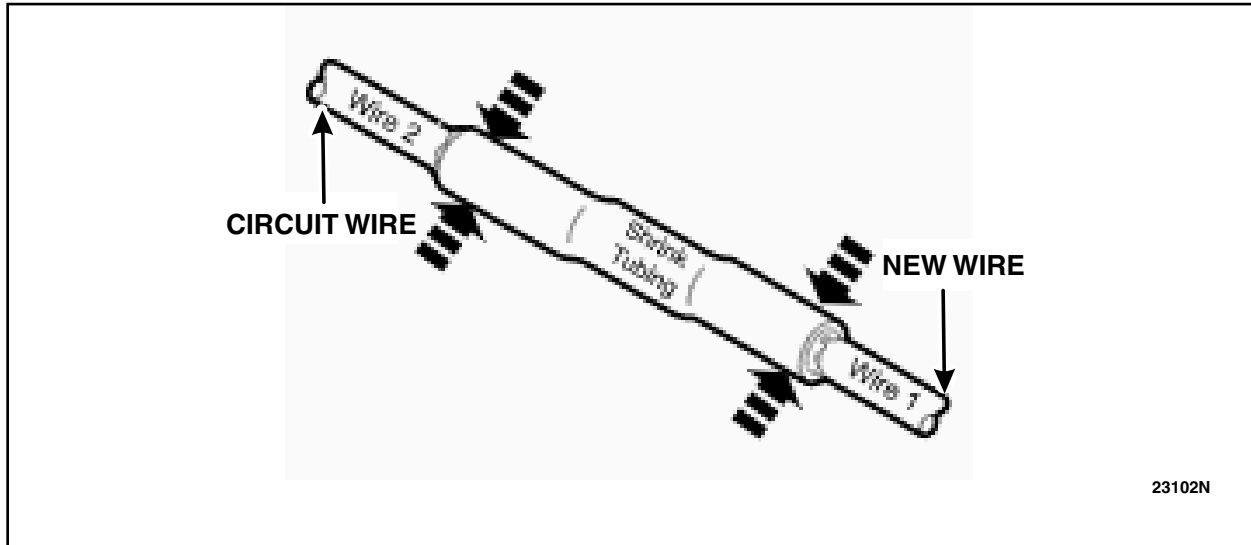

FIGURE 13
16. Add a 6-inch (152 mm) piece of 22-gauge wire to the end of the new circuit that was just installed. Solder and heat shrink the two wires together. Follow connector repair procedures. See Figure 13.